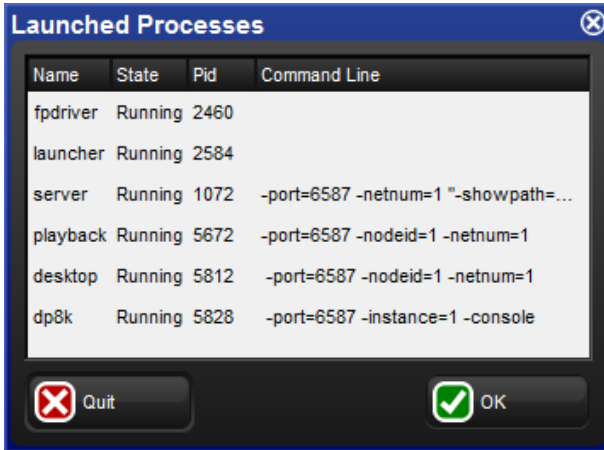

Figure 27.1. The Launched Processes window
1. Pig + Open + Backspace : open the Launched Processes window; see *Figure 27.1, "The Launched Processes window"*.